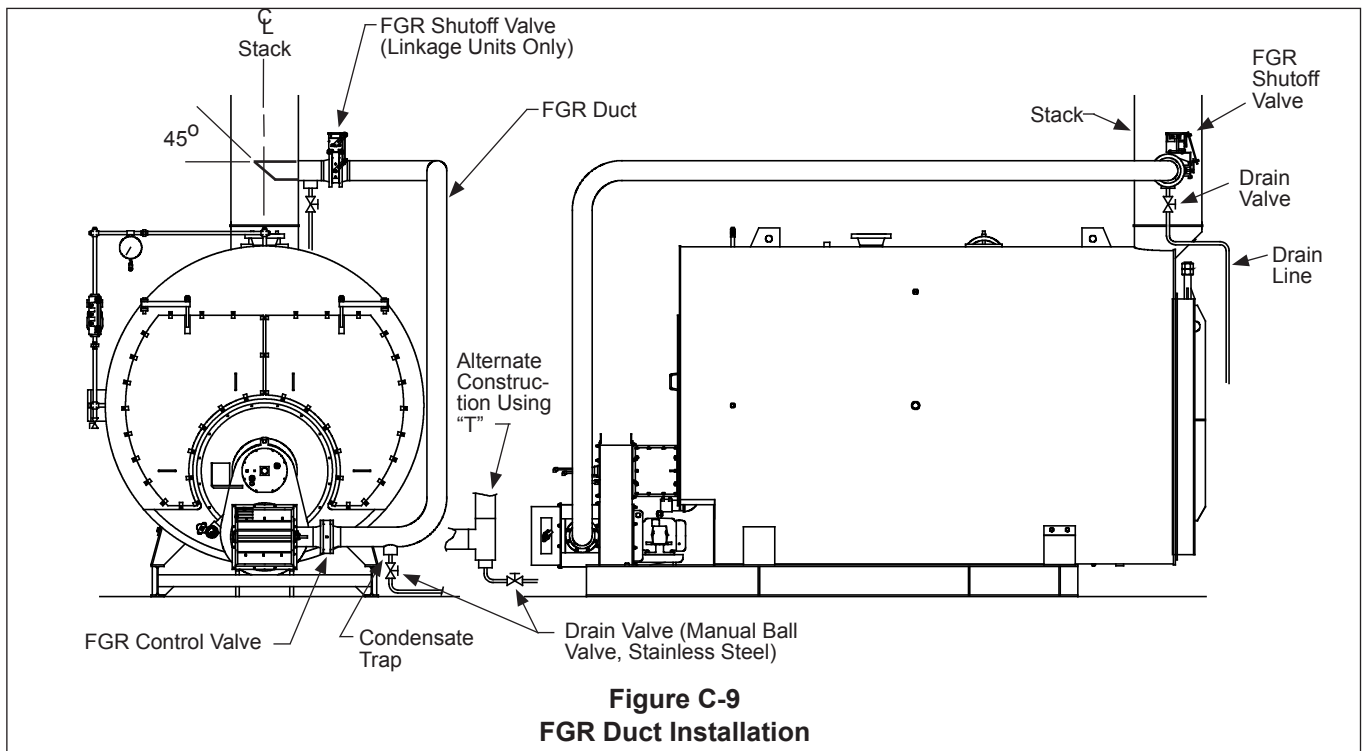

Figure C-9
For example, consider the arrangement shown in Figure C-9. There will be three long radius 90 degree elbows and 42 feet of straight pipe. If 12" pipe is used, then the total equivalent length will be:
- Normally the duct would connect to the stack as shown in Figure C-9, with a 45 degree cut facing the flue gas flow and with the center of the cut centered in the stack.